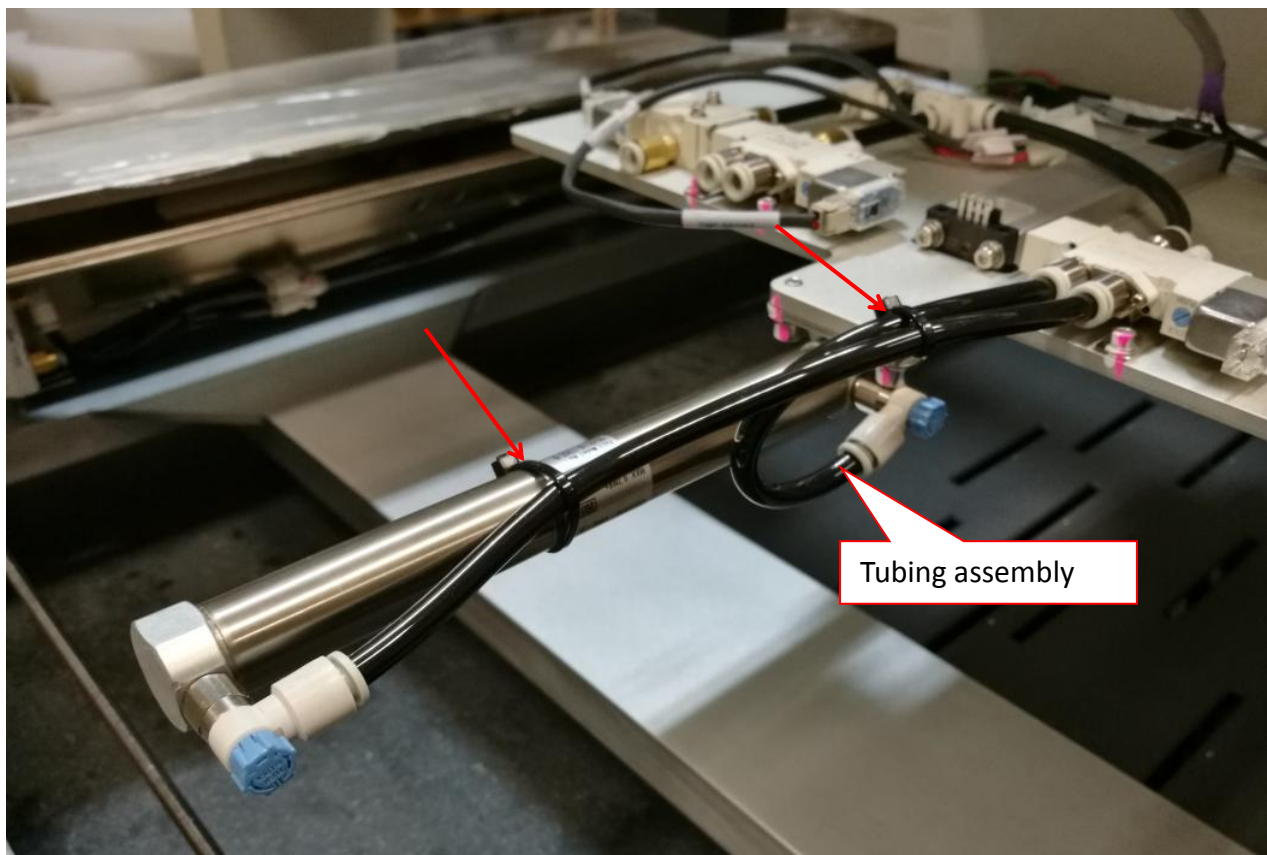

Figure 12 Tubing & cable tie assembly
21. Plug back tubing & apply cable tie as shown in Figure 12